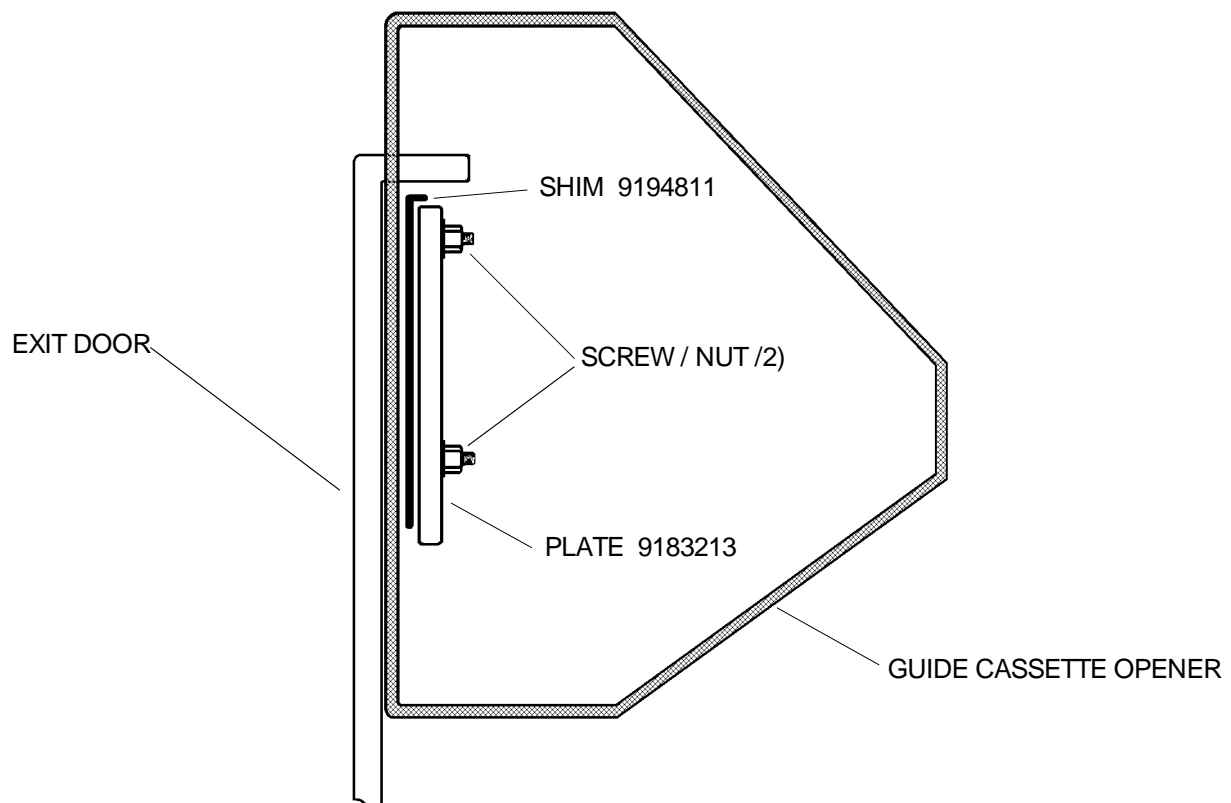

figure 2
- 8.** Install the two SHIMS 919 4811 figure 2 to the PLATE 918 3213.
If they are blocked check the position of PLATE 918 3213 and SHIMS 919 4811. See figure 2.